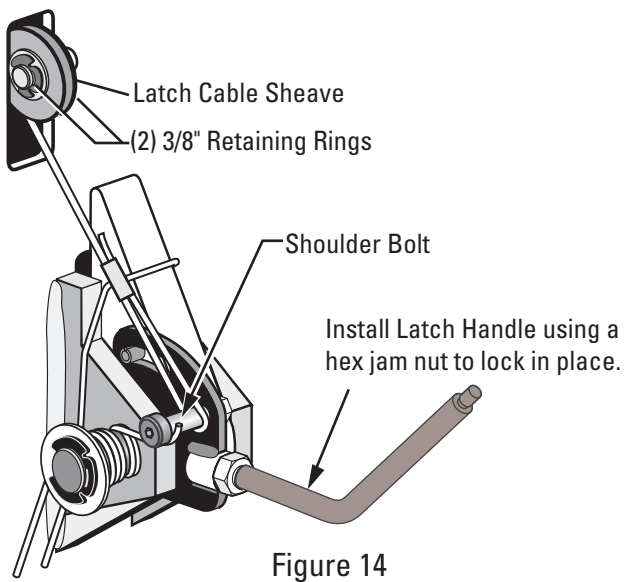
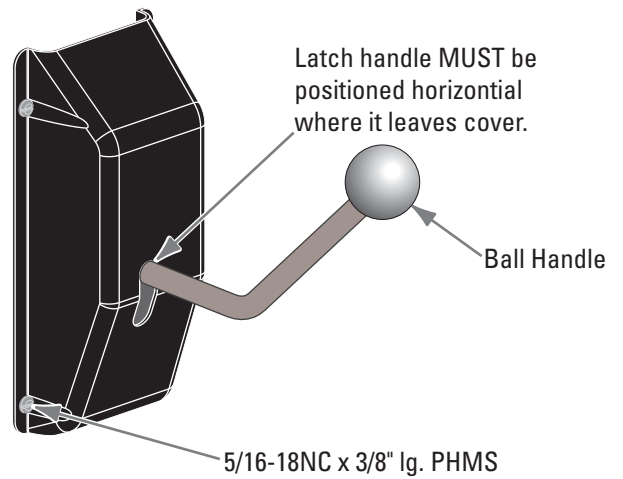

Figure 14
Figure 17
- A) Install latch cable sheave and retaining rings in upper slot of power unit column as shown, Fig. 14.
- B) Slip loop end of cable over end of shoulder screw on right side latch control plate, Fig. 14.
- C) Feed the other end of the cable through the latch cable sheave slot making sure that the cable is running under the bottom side of the latch cable sheave and inside the right column, Fig. 14.
- J) At this point you **MUST** install the latch handle, jam nut, and right column latch cover Fig. 14 & Fig. 17. Install latch handle ball, Fig. 17.
- D. To prevent the carriages from rubbing the hoses, pull the hoses upward taking out any slack between the cylinder fitting port and the cylinder mount. Secure the hoses to the mainside cylinder with a wire tie around the tee and the cylinder. The tee should be positioned to aim directly out through the grommet, Figure 14. Secure the hose to the offside cylinder at approximately the same height with a wire tie.